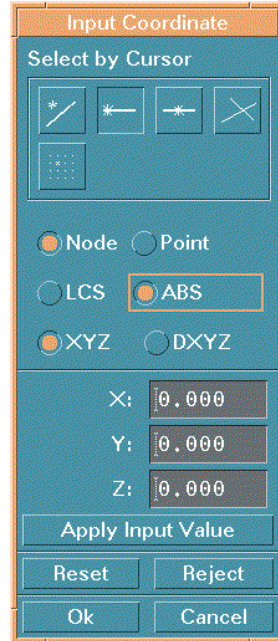

Figure 6.1.2 Input Coordinate
- Select three points in Figure 6.1.2 and refer to Section 6.1.1. When the third point is selected, the arc and its center will be generated.
- If POINT TO POINT MOVE is selected, the INPUT COORDINATE window, see Figure 6.1.2, will be displayed for selecting two points. The translation will be based on the differences of three coordinates of selected points.